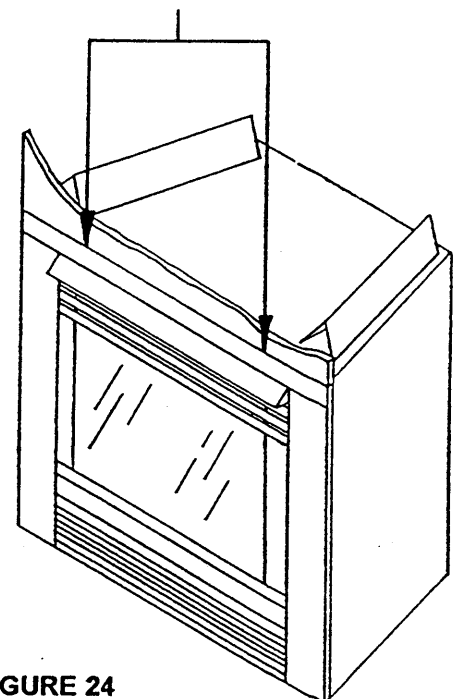

FIGURE 24
**CAUTION:** ALL JOINTS BETWEEN THE FINISHED WALL AND THE FIREPLACE SURROUND (TOP AND SIDES) CAN ONLY BE SEALED WITH 300°F (149°C) MINIMUM SEALANT MATERIAL. ONLY NON-COMBUSTIBLE MATERIAL USING A 300°F (149°C) MINIMUM ADHESIVE IF NEEDED, CAN BE APPLIED AS FACING TO THE FIREPLACE SURROUND. SEE FIGURE 24.